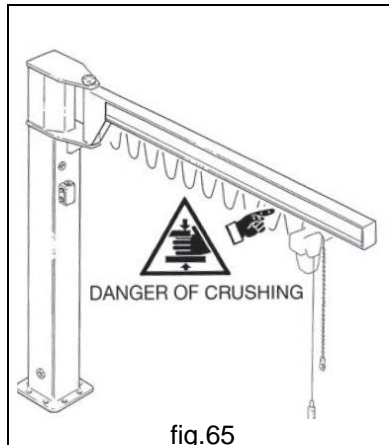

fig.65
- ALWAYS check that the sliding track of the trolley is at a height which does not allow the operator to interfere with the hoist/trolley and/or its moving parts. If this isn't possible arrange appropriate shelters or signs positioned in the danger zone (fig. 65).